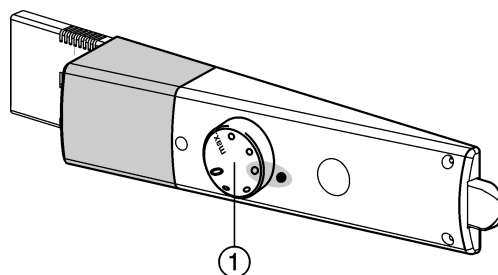

Fig. 2
- ▶ Turn the temperature control *Fig. 2 (1)* to the right, from the 0 setting to point 3.